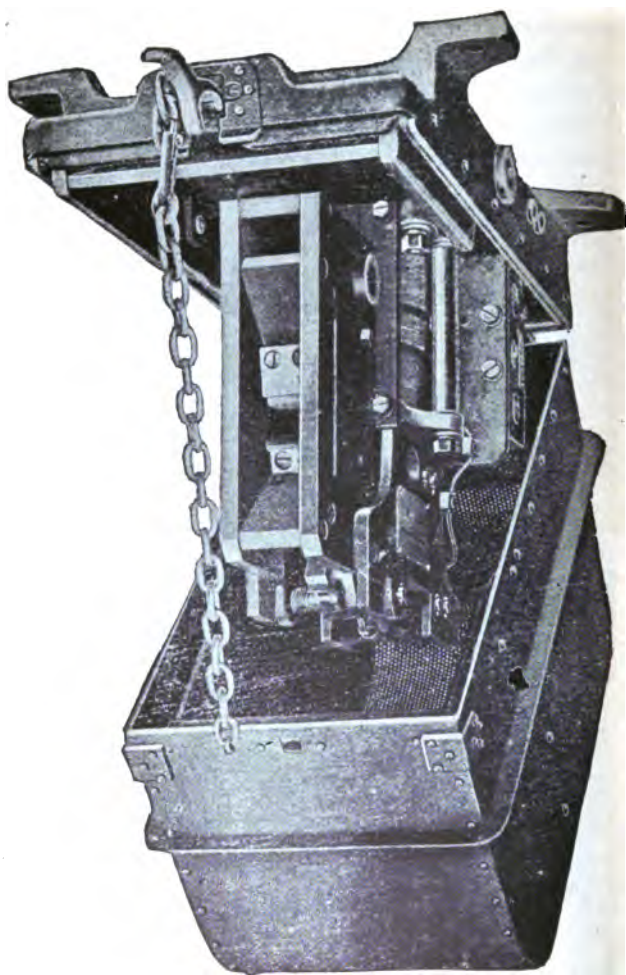

Fig. 484. Circuit Breaker.
14. THE CIRCUIT BREAKER (Fig. 484) is enclosed in an iron box, located beneath the car at the end of the contactor box toward the trailer truck.